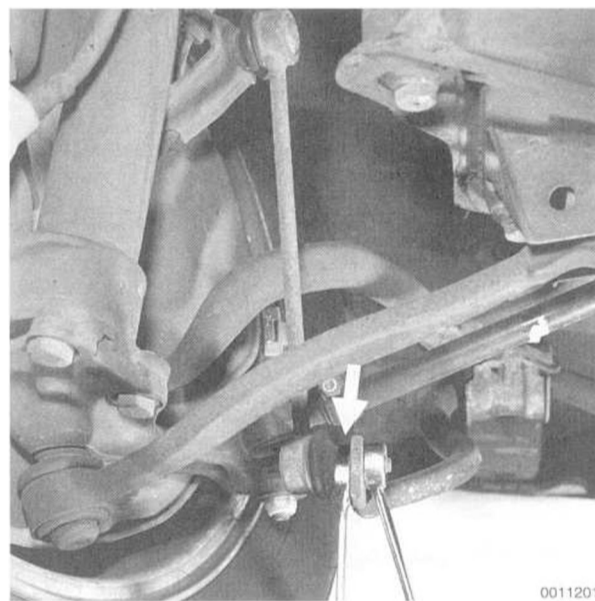

Fig. 12. Stabilizer bar connecting link being removed. Counterhold link from behind (**arrow**) when removing nut.
2. Remove the lower connecting link nuts and tap the links out of the stabilizer bar. See Fig. 12.